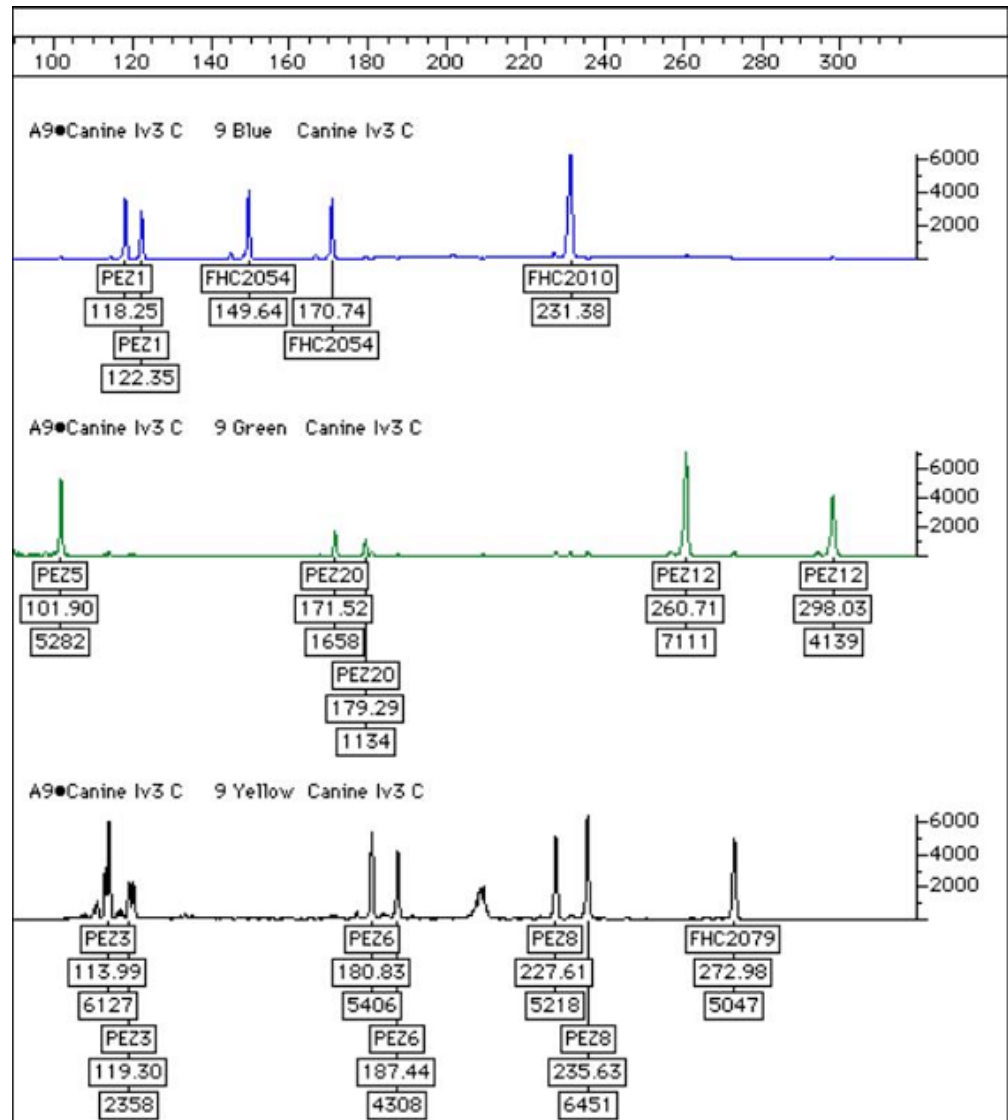

Figure 8 Genotyper™ software analysis of PCR amplification products using canine control DNA and separated on an Applied Biosystems® 310 Genetic Analyzer
- Applied Biosystems® 310 Genetic Analyzer (Figure 8 on page 36)